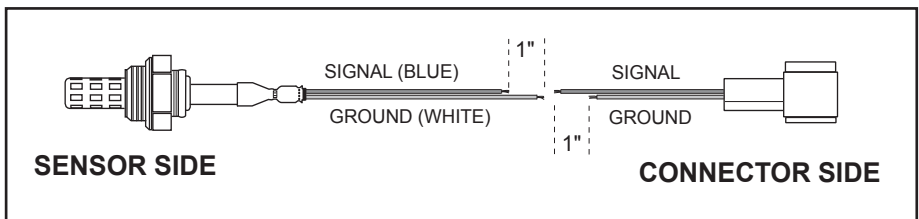

Fig. 1
6. With the two sensors laid out side by side, cut off the original sensor so overall length will be 1"-2" longer than before. (See Fig. 1) This will allow connections to be made at evenly spaced intervals so the heat shrink tube can fit over the butt connections and the finished overall length to match the original.